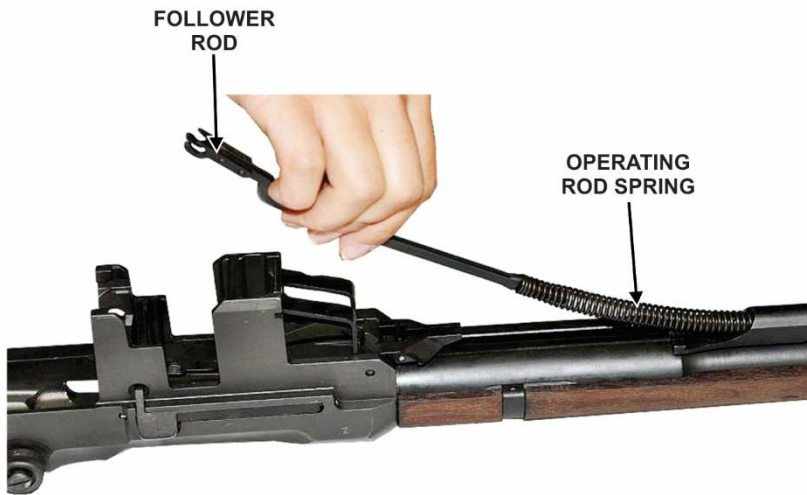

Figure 50. Orientation of follower rod
- 16) Insert the loose end of the operating rod spring into the operating rod (fig 50).